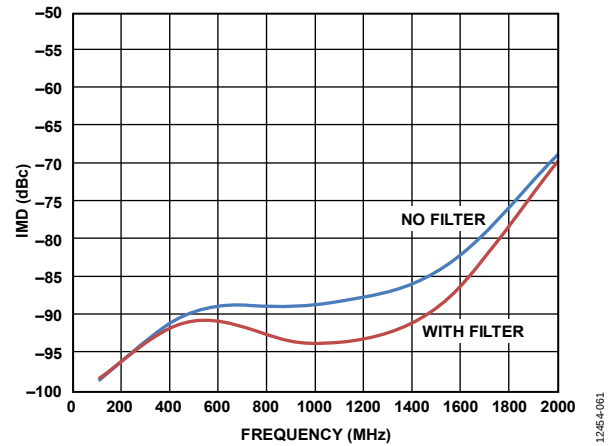
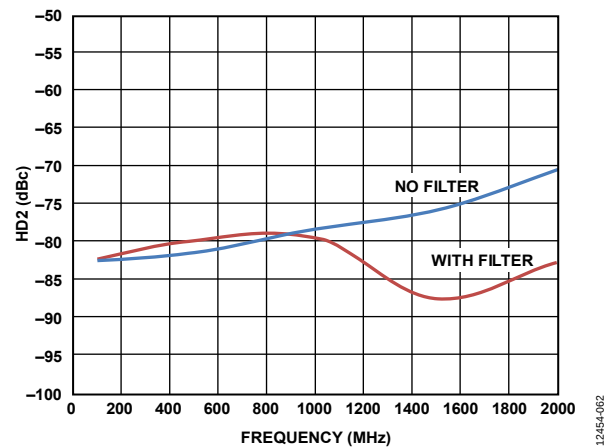
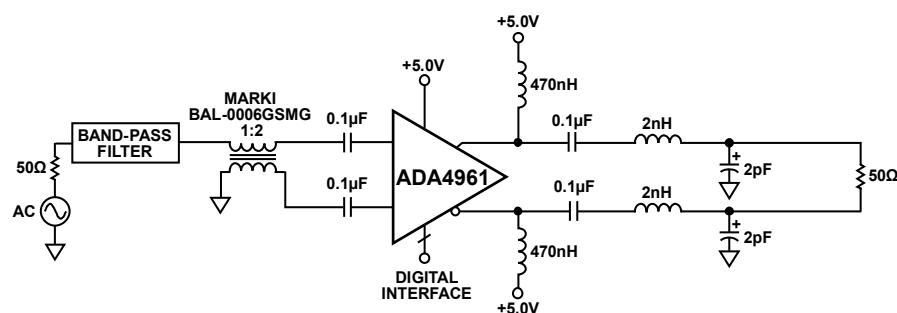

Figure 46. IMD vs. Frequency, with and Without LC Filter
Figure 47. HD2 vs. Frequency, with and Without LC Filter
Figure 49. ADC Interface Circuit Using a Low-Pass Antialias Filter
The high frequency distortion performance of the ADA4961 can be enhanced by adding a low-pass filter to the output (see Figure 46 and Figure 47). A two-pole low-pass filter is used in the ADC Driving section to illustrate the distortion improvement capabilities and integrated noise reduction. Figure 49 shows a simplified diagram of a two-pole low-pass (LP) filter. The inductor capacitance (LC) values are 2 nH and 2 pF respectively. This filter gives an overall -3 dB BW of 2 GHz when connected to the ADA4961. Ideally, the BW is 3.5 GHz without any parasitics. The parasitic, C, (about 1 pF) across the 2 nH inductor (not shown) reduces the BW to about 2.1 GHz.